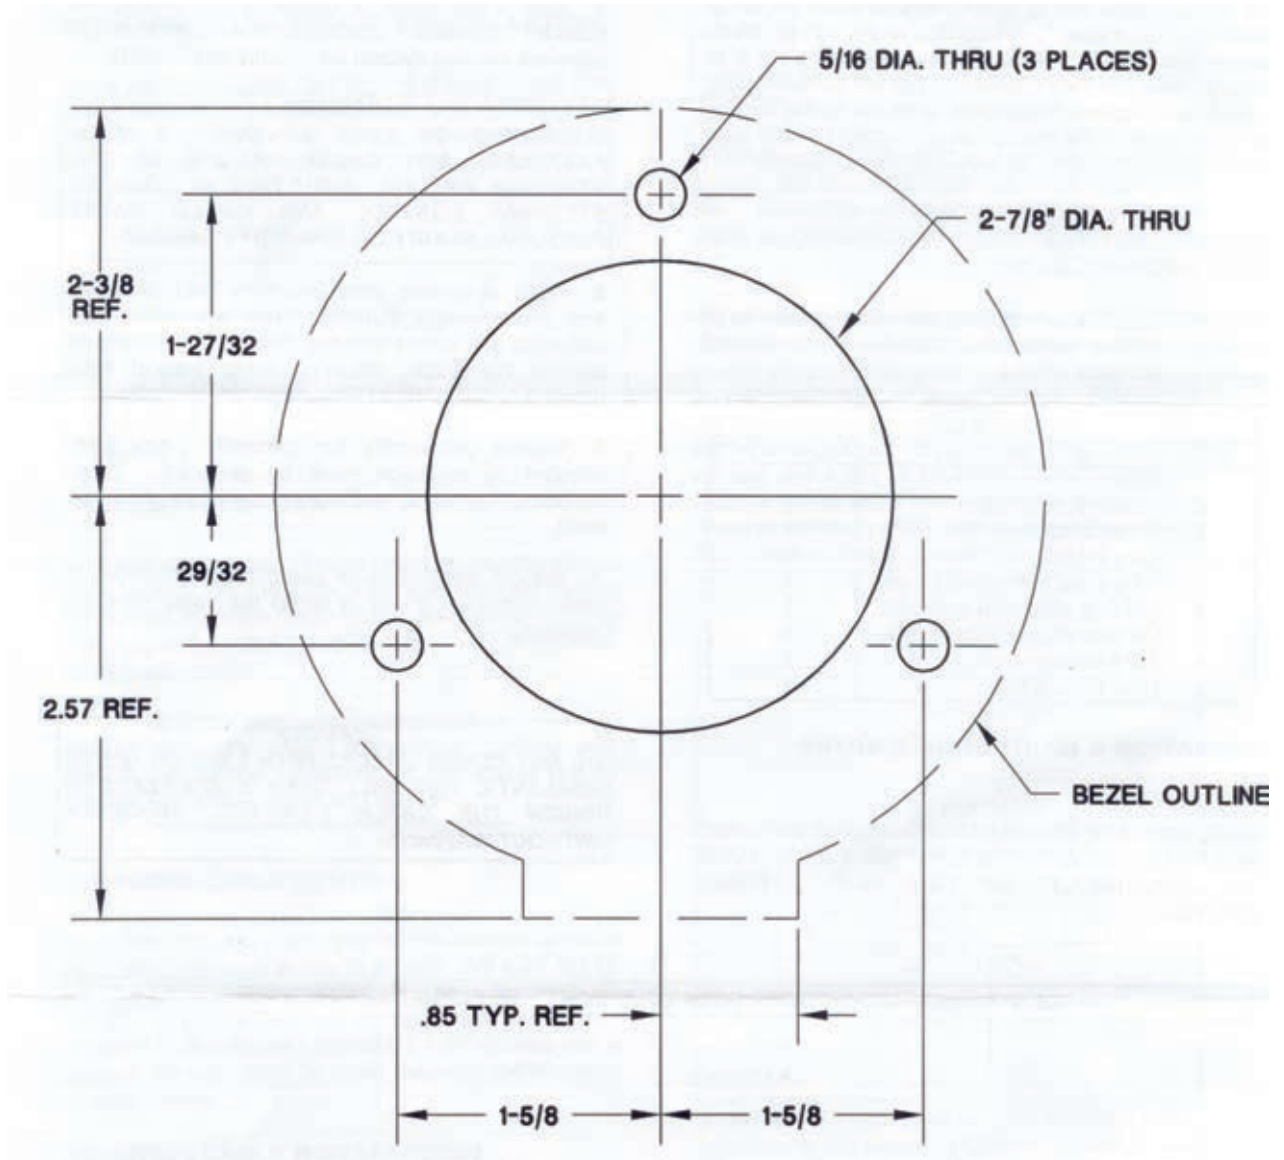

Figure 7.
STEP 2. Position the template (figure 7) on the console or dashboard at the location previously marked, and drill three holes 5/16" diameter and one hole 2-7/8" diameter.